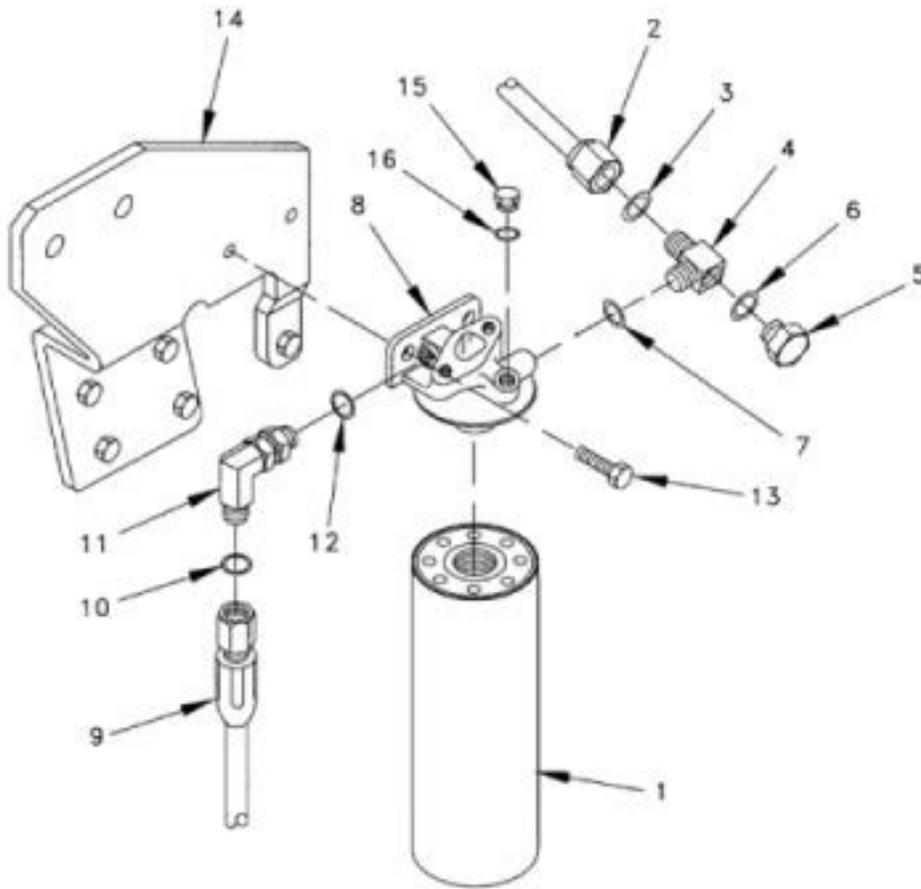

Figure 1. Fuel Filter Base.
1. Place suitable drain pan under fuel filter element (Figure 1, Item 1) to retain spillage.
2. Remove fuel filter element (Figure 1, Item 1) using strap wrench if necessary.
3. Disconnect tube assembly (Figure 1, Item 2) and remove O-ring (Figure 1, Item 3) from tee (Figure 1, Item 4).
4. Remove plug (Figure 1, Item 5), O-ring (Figure 1, Item 6), tee (Figure 1, Item 4), and O-ring (Figure 1, Item 7) from fuel filter base (Figure 1, Item 8).
5. Disconnect hose (Figure 1, Item 9) and remove O-ring (Figure 1, Item 10), elbow (Figure 1, Item 11), and O-ring (Figure 1, Item 12) from fuel filter base (Figure 1, Item 8).
6. Remove two bolts (Figure 1, Item 13) and fuel filter base (Figure 1, Item 8) from bracket (Figure 1, Item 14).
7. Remove plug (Figure 1, Item 15) and preformed packing (Figure 1, Item 16) from fuel filter base (Figure 1, Item 8).
1. Install preformed packing (Figure 1, Item 16) and plug (Figure 1, Item 15) on fuel filter base (Figure 1, Item 8).
2. Install fuel filter base (Figure 1, Item 8) on bracket (Figure 1, Item 14) and secure with two bolts (Figure 1, Item 13). Tighten bolts.
3. Install O-ring (Figure 1, Item 12), elbow (Figure 1, Item 11), and O-ring (Figure 1, Item 10) on fuel filter base (Figure 1, Item 8), and connect hose (Figure 1, Item 9).
4. Install O-ring (Figure 1, Item 7), tee (Figure 1, Item 4), O-ring (Figure 1, Item 6), and plug (Figure 1, Item 5) on fuel filter base (Figure 1, Item 8).
5. Install O-ring (Figure 1, Item 3) on tee (Figure 1, Item 4), and connect tube assembly (Figure 1, Item 2).
6. Apply light coat of fuel to seal and install fuel filter element (Figure 1, Item 1) by hand. Turn  $\frac{3}{4}$  additional turn after seal contacts fuel filter base (Figure 1, Item 8).